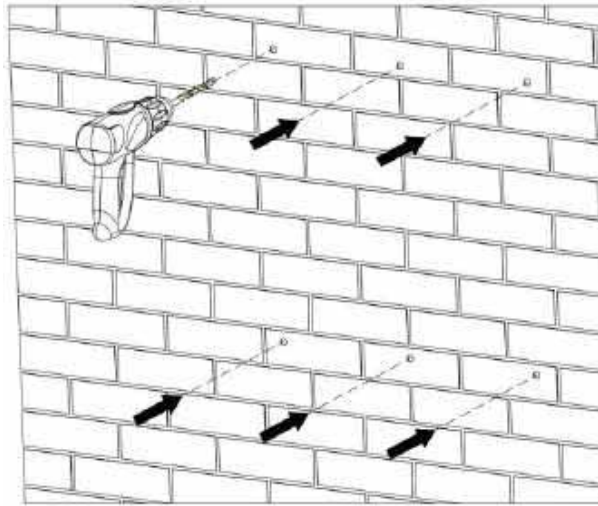

Figure 4.8 Drilling
- (2) Drill 6 installation holes on the wall with electric drill. As shown in Figure 4.8